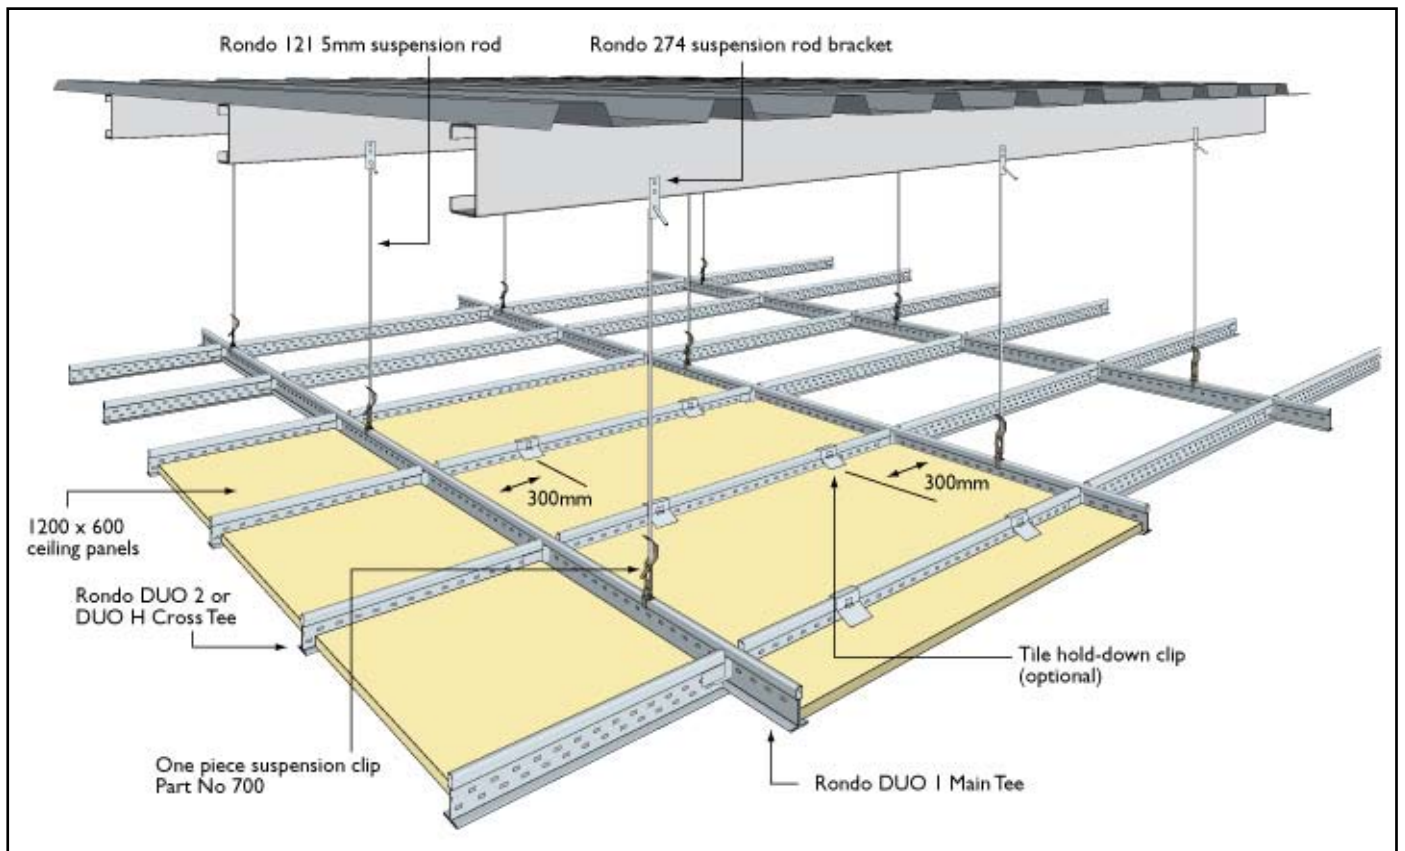

FIGURE 2: Two-way Exposed Ceiling System Detail
4. Fix the Main Tee suspension brackets as per Figures 2 & 6. Ensure the suspension brackets are installed at no more than 1200mm centres and spaced 1200mm on either side. Ensure the hanger points are set out so that hangers adjacent to the perimeter walls are no more than 300mm from the wall unless otherwise specified.